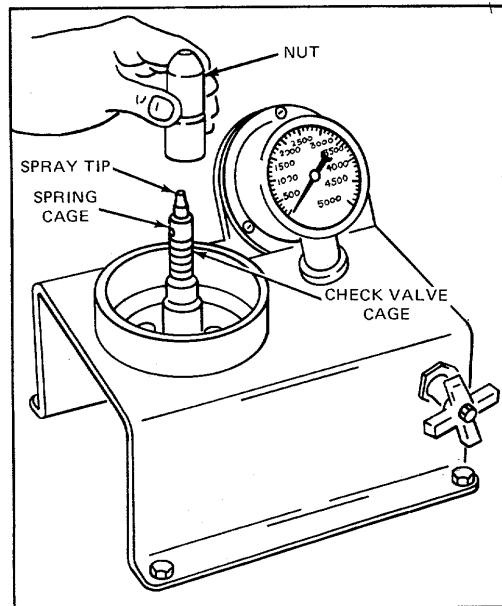

Figure 18. Installing Injector Valve parts on Auxiliary Tester J 22640
2. Assemble cleaned injector parts, including the check valve cage, spring, spring seat, spring cage, and spray tip assembly, on auxiliary tester J 22640 (Fig. 18).